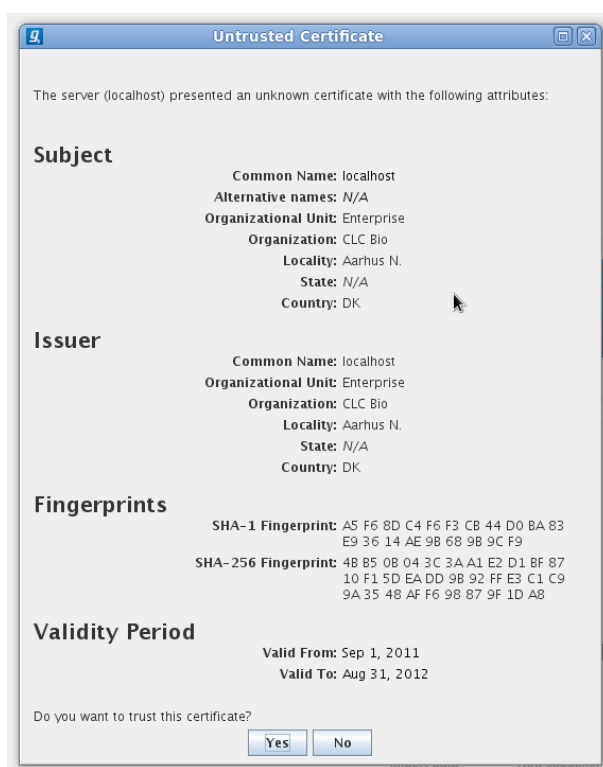

Figure 3.7: A warning is shown when the certificate is not signed by a recognized CA.
If SSL is detected on the port provided, the CLC Server's certificate will be verified before the connection is established. A warning is displayed if the certificate is not signed by a recognized Certificate Authority (CA) (figure 3.7). When such a certificate has been accepted once, the warning will not appear again.